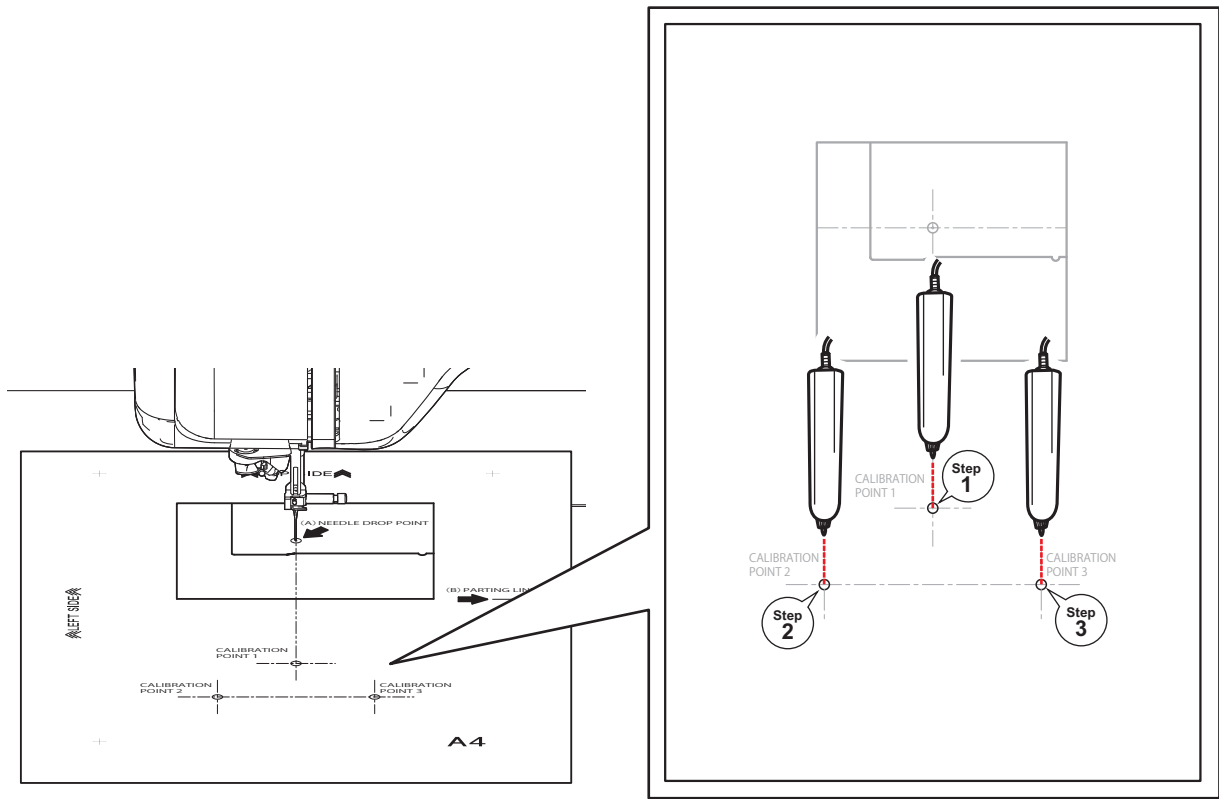

Fig.9
9. Press the calibration point 1 to 3 in this order with the sensor pen on the calibration sheet. (Fig.9)